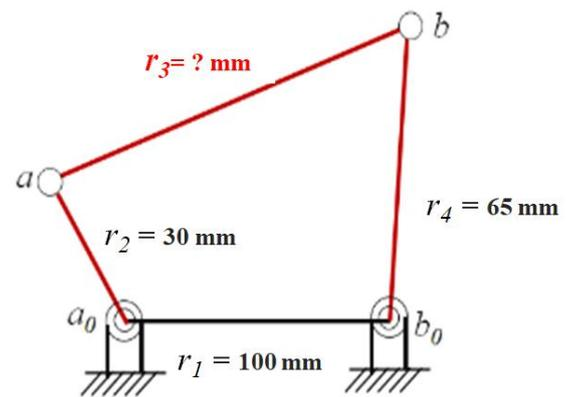

Fig. 3 4-bar mechanism
3. For the 4-bar mechanism shown in Fig. 3, crank 2 is to rotate continuously and link 4 is to oscillate. What are the maximum and minimum values in millimeters which can be used for the coupler length ( $l_3$ ).